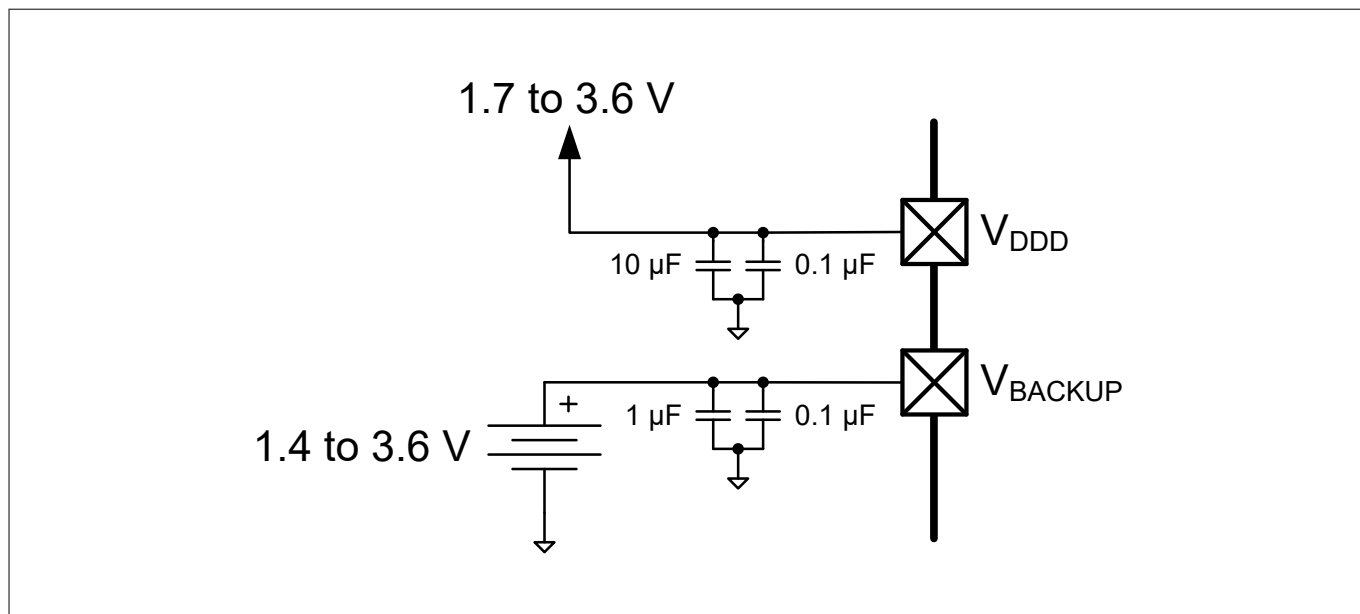

Figure 15 Separate battery connection to V_{BACKUP}
- V_{BACKUP} : the supply for the backup domain, which includes the 32-kHz WCO and the RTC. It can be a separate supply as low as 1.4 V, for battery or supercapacitor backup, as Figure 15 shows. Otherwise it is connected to V_{DD} . It powers I/O port 0